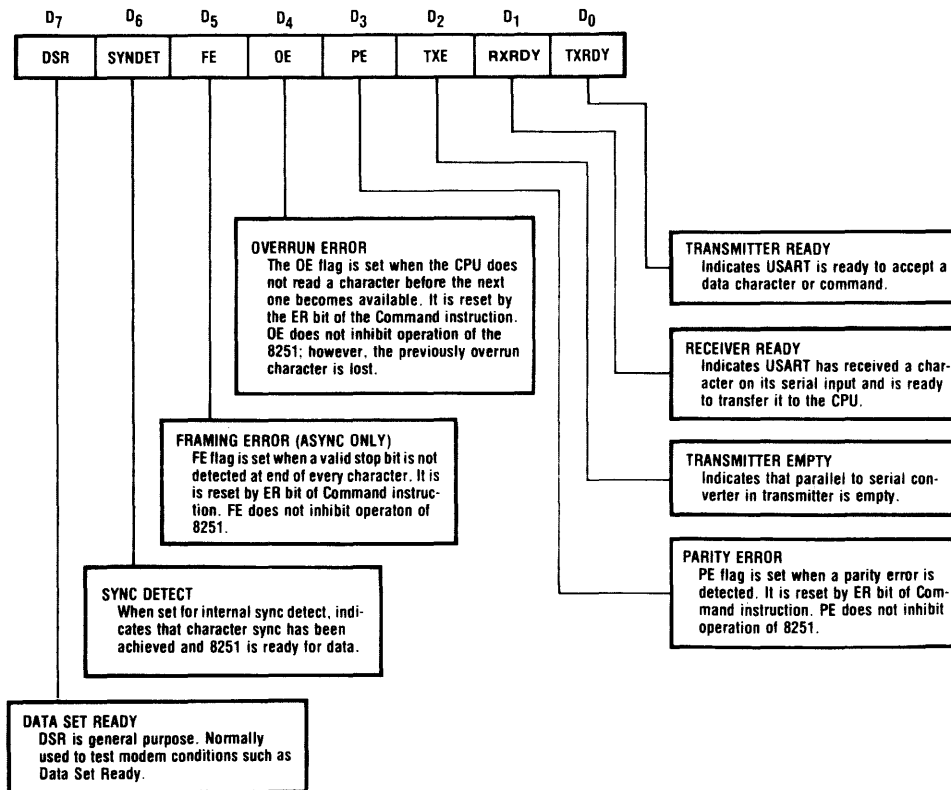

Figure 3-7. USART Status Read Format
Any Multibus master can determine the status of the serial I/O port by issuing an I/O Read Command to the upper address (XA) of the USART chip. The format of the status word is shown in figure 3-7.